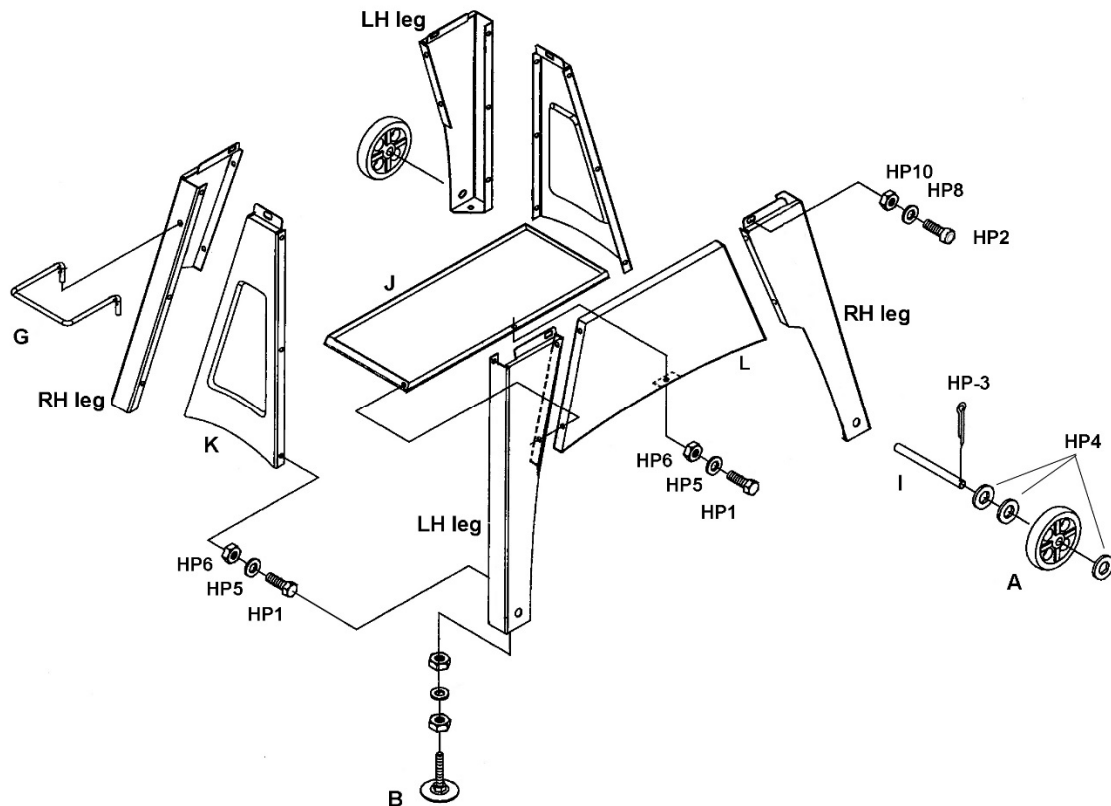

Figure 5-3: stand assembly
Refer to Figure 5-3.
1. Assemble legs, cross braces, front panel and shelf, as shown in Figure 5-3.
2. Install handle (G) into end of assembled stand
4. Install adjustable feet (B) at opposite end of stand and adjust until stand is level.
1. With help from another person, position saw atop stand, and secure with socket head cap screws and washers (HP2/8/10, Figure 5-3).